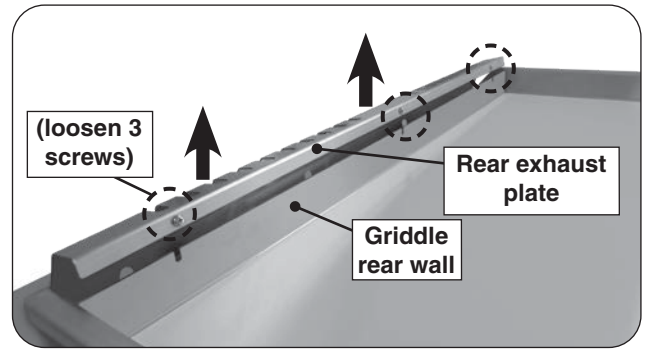

Fig. 27-1 Rear exhaust plate removal
1. Remove the rear exhaust plate by loosening the three bolts and nuts (do not disassemble), then lift the panel up from the griddle top (see Fig. 27-1).